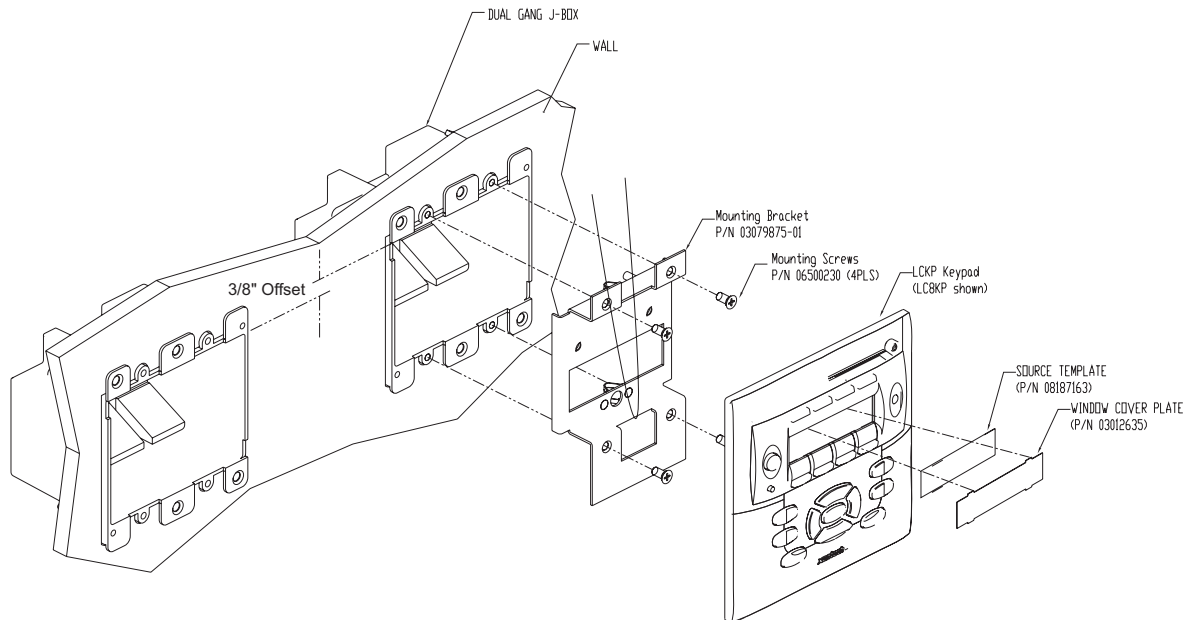

Figure 6: LCKP Keypad Mounting Diagram
2. Affix LCKP Mounting bracket (P/N 03079875-01) to the Dual Gang J-Box as shown in Figure 6 below using four 8-32 screws (included).
1. See **Figure 6** for termination of the CAT5 cables to the RJ45 connectors.